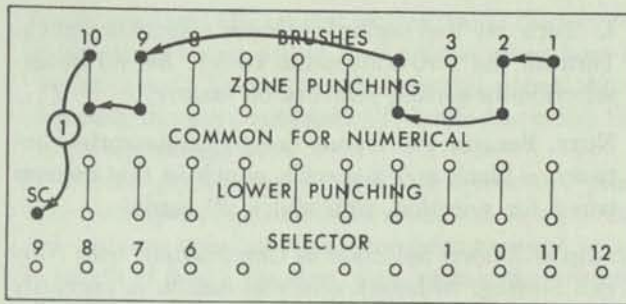

Figure 37. Common-Digit Selection (82)
Common-Digit Selection: Figure 37 shows the control panel wired so cards with an X-punch in any of brush positions 10, 9, 4, 2, and 1 are selected into pocket 11. All other cards are rejected.
1. The zone-punching hubs of each position are wired together and to the sc hub (Figure 37).